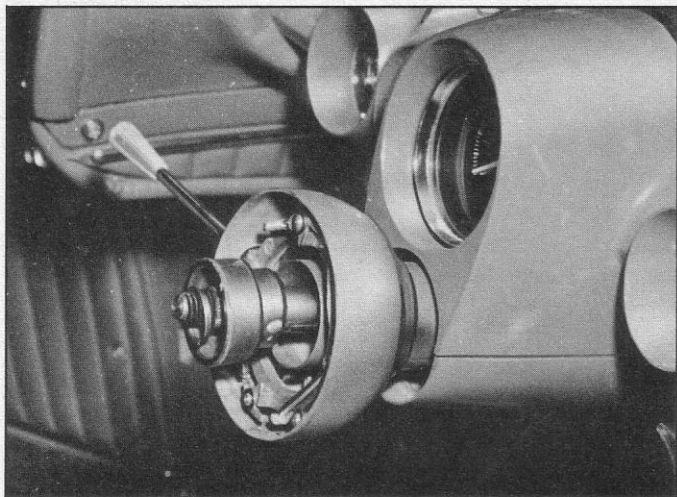

Fig. 8—Mast Jacket Upper Bearing Replacement
- Pry upper bearing and horn wire from mast jacket, using a sharp-bladed screwdriver or other suitable tool (fig. 8).